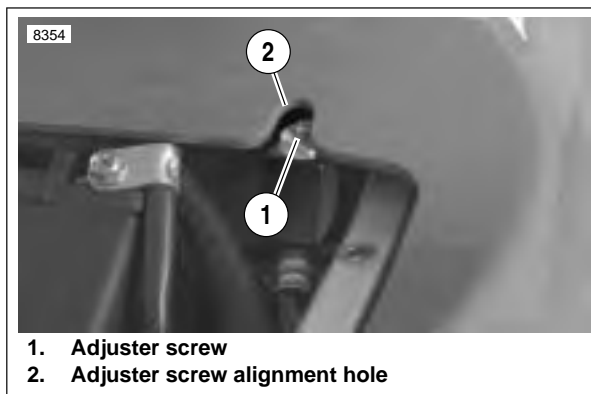

Figure 4-120. Adjuster Screw Alignment
See Figure 4-120. To ensure proper reservoir mounting, temporarily place upper body work onto tail section and adjust reservoir placement so adjuster screw (1) aligns with alignment hole (2).